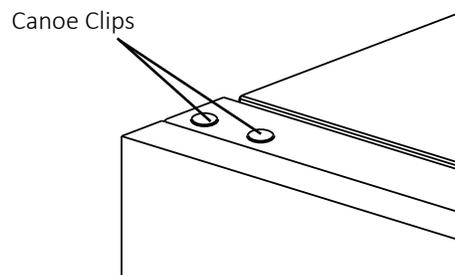

Fig. 22
10. Insert the 2 canoe clips included in the accessory bag into the holes on top of the door (See Fig. 22).